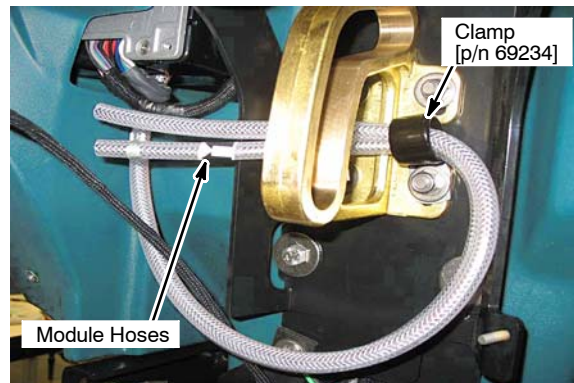

Fig. 39
8. Install clamp [p/n 69234] and route the two *ec-H2O* module hoses as shown (Figure 39).